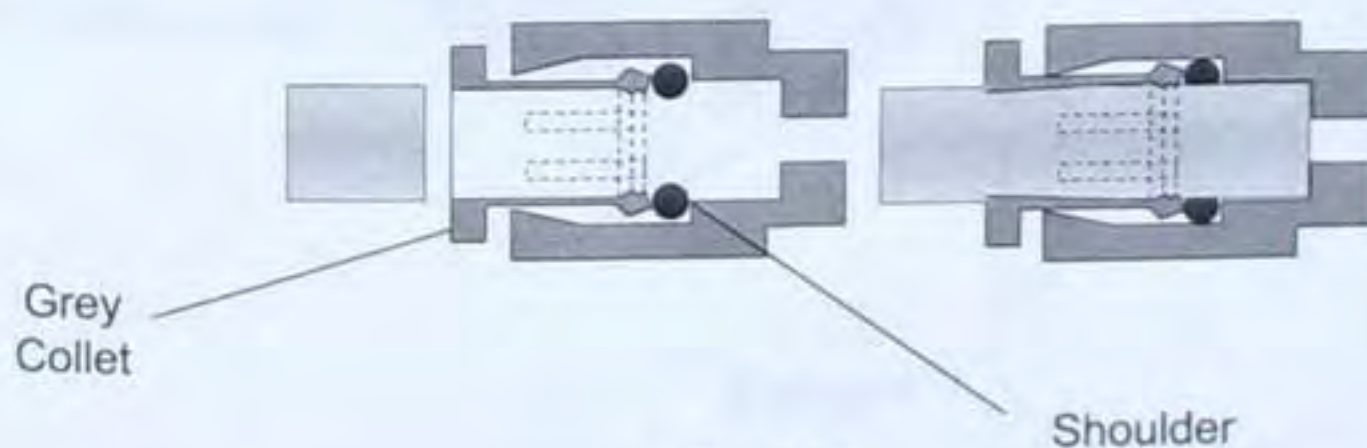

Figure 1
3. While making sure the adjustable collet is loose, install the elbow and the new filter onto the condenser outlet. This is done by pushing the elbow straight into the condenser outlet tube until it bottoms on the shoulder (approximately 1"). See figure 1.